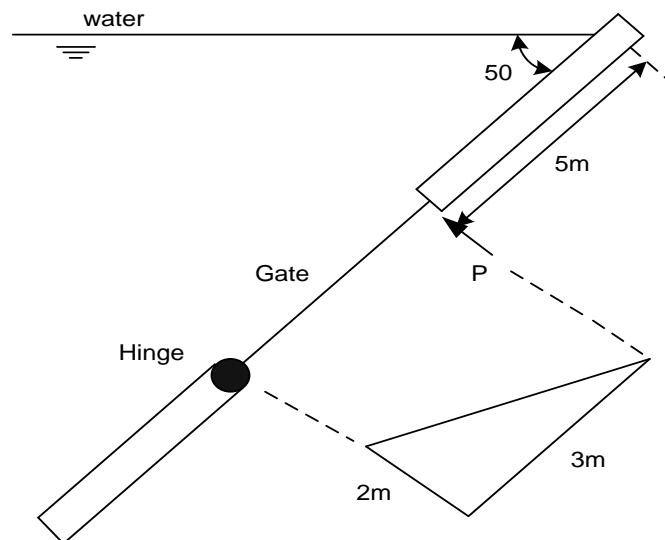

Figure Q2[b]
- [b] Determine the location of the resultant force F of the water on the triangular gate and the force P needed to hold the gate in the position as shown in Figure Q2[b] (Take $I = \frac{bh^3}{36}$ for triangular gate)